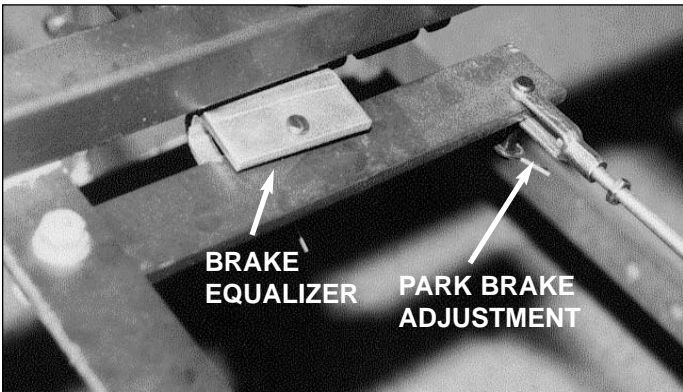

Figure 18 - Mechanical Parking Brake Linkage
- a. Locate the rod connecting the park brake handle to the brake linkage equalizer. See Figure 18.